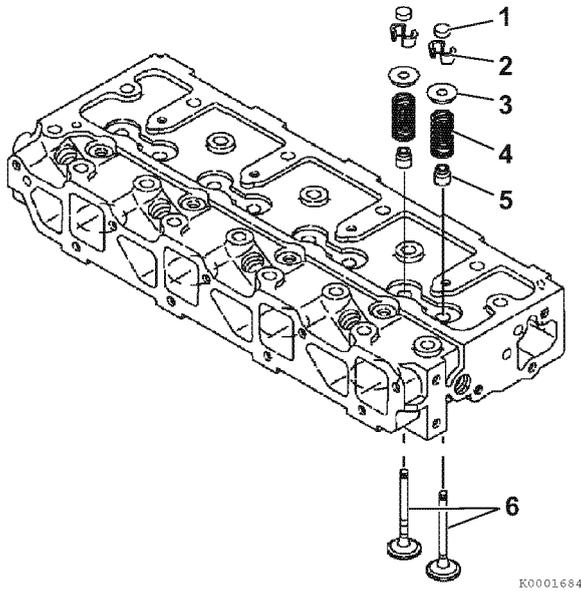

Figure 6-34
4. Place all the valves (6, **Figure 6-34**) in their proper location in the cylinder head.
5. Place the cylinder head on the workbench with the combustion side down to install the valve springs. Install the valve spring (4, **Figure 6-34**) and the spring retainer (5, **Figure 6-34**).
7. Insert the valve keepers (2, **Figure 6-34**) and slowly release the tension on the valve spring. Install the valve cap (1, **Figure 6-34**). Repeat the steps on all the remaining valves.